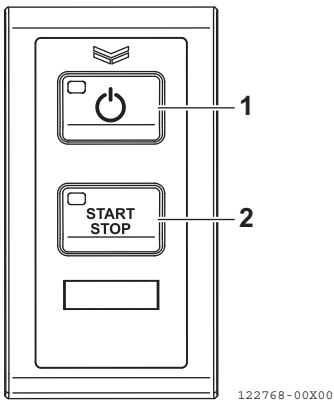

Figure 58
- 4. Press the Power switch on the switch panel of the selected station (Figure 58, (1)).
9. Press the Engine START/STOP switch (**Figure 58, (2)**) and power on the starter.